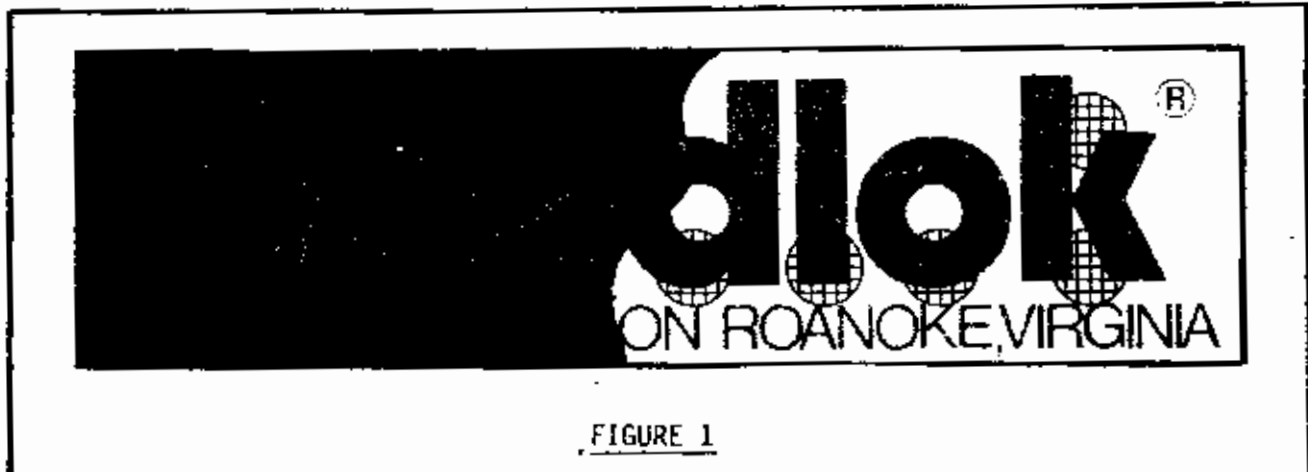

FIGURE 1
As the cut-away drawing in Figure 1 illustrates, there is a round, pressure sensitive key positioned at the bottom edge of each of the eight (8) letters in the name Treadlok. These are the operating keys which you will press to enter your chosen combination. Additionally, there are two (2) more keys, one at the top of the letter "T" and one at the top of the letter "K". These two keys are "control keys" which are used to perform some special Logolok functions.